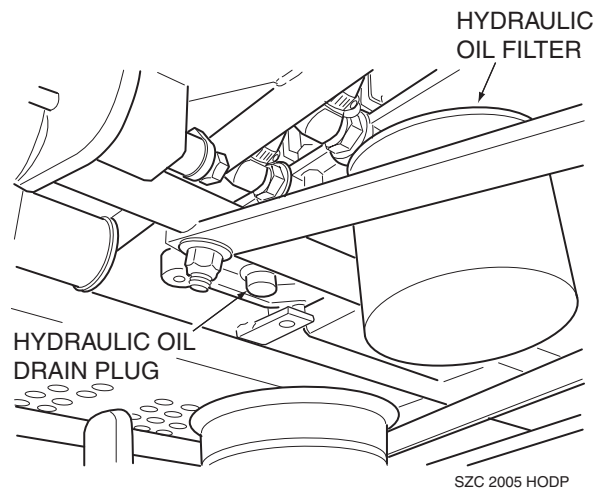

Figure 7-3 Hydraulic Oil Filter and Drain Plug
2. Place a suitable container under the hydraulic oil filter. Tilt the seat forward. Remove the fill cap from the reservoir and the drain plug from the bottom of the reservoir. (See Figure 7-3). Allow the fluid to drain into the container and properly discard it.
1. Remove the oil filter element (Figure 7-3, Page 32) and properly discard it. Fill the new filter with clean SAE 20W50 engine oil and install the filter. Hand tighten only.